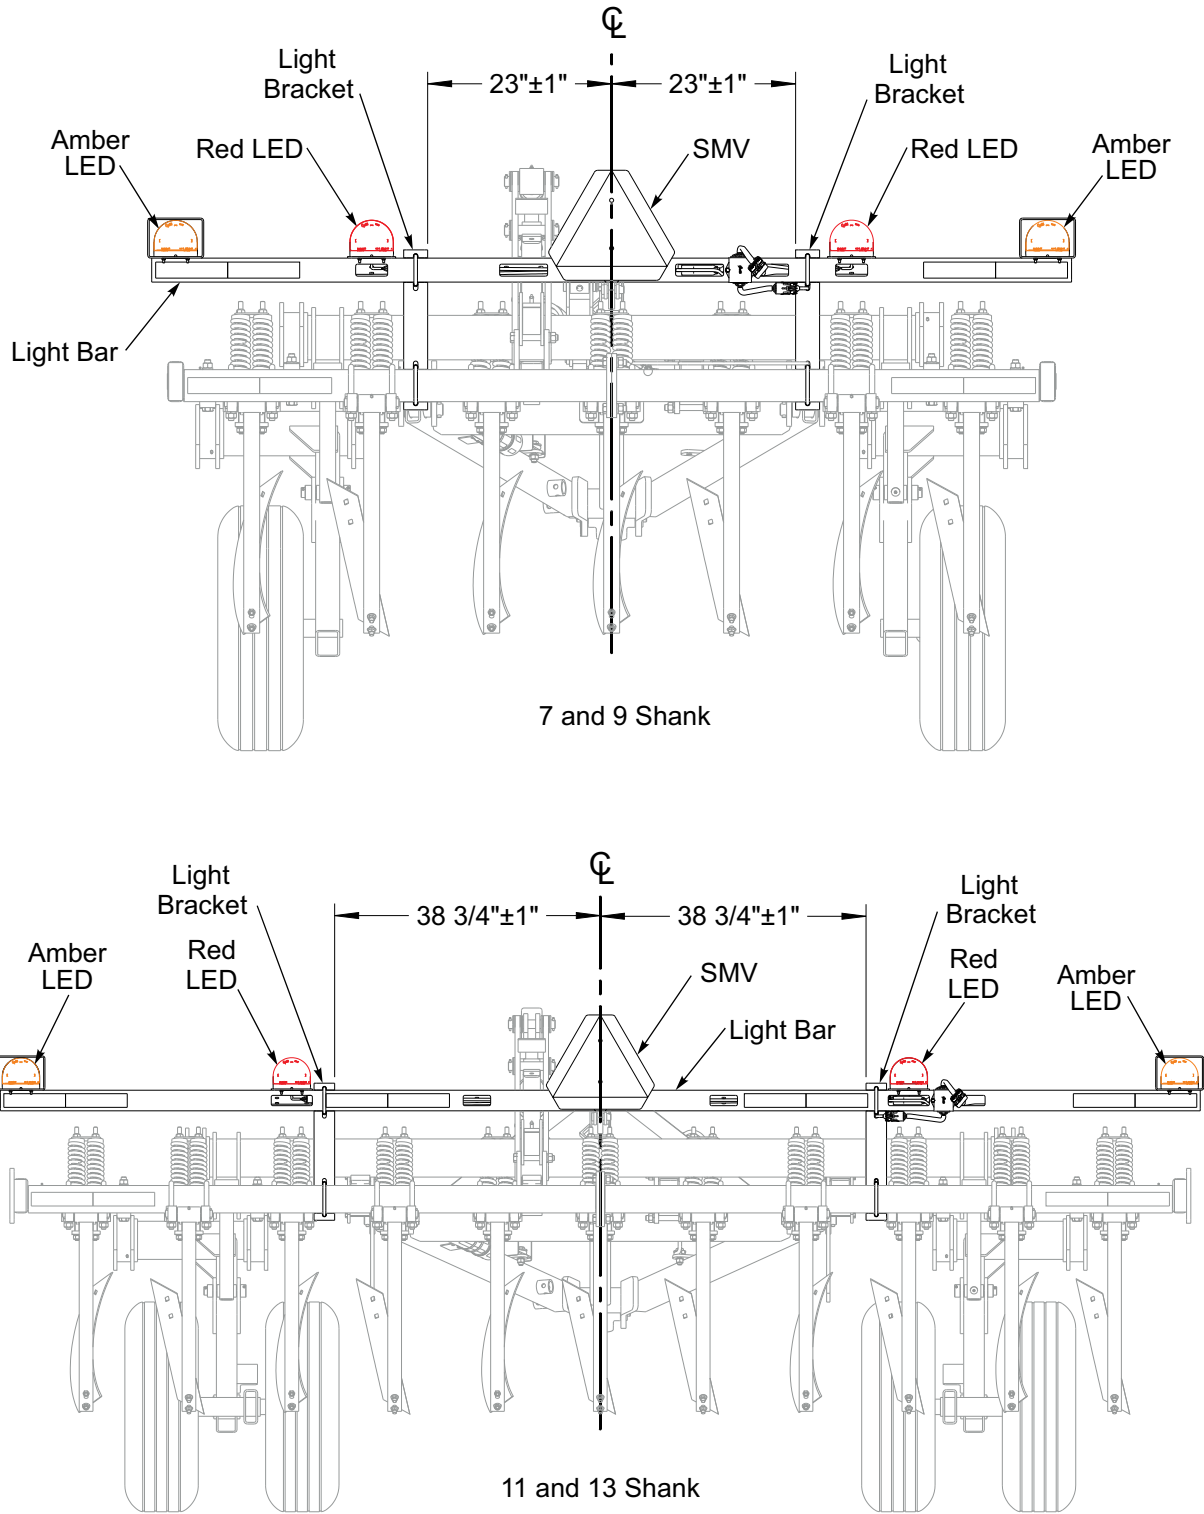

Figure 2-49: LED Installation Dimensions
1. Attach a light Bracket Tube to the left front side of the rear frame tube at a distance per Machine Model. **See Figure 2-49.** Secure with a longer 1/2-13 U-bolt and Flanged Locknuts.